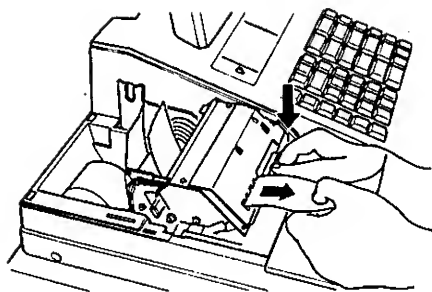

Fig. 7
2. Tear the paper end off the paper core and pull the paper end out while depressing the Free Lever. (Fig. 7)